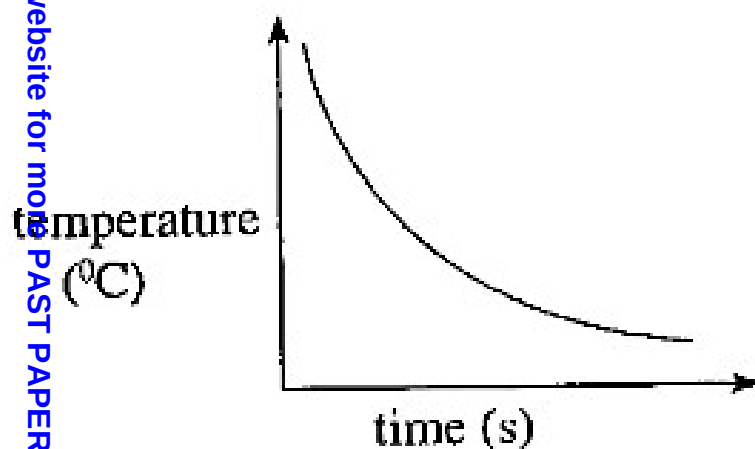

Fig 11.5a
- Figure 11.5a shows that the higher the temperature the less the time taken to form a precipitate.